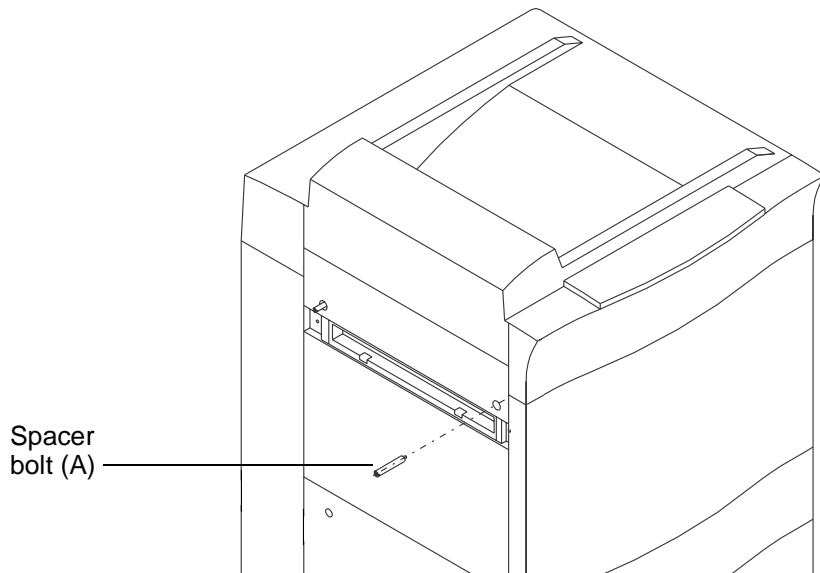

Figure 13 Inserting spacer bolt (A)
Step 5 Insert spacer bolt (A) into the hole where the screw was. See Figure 13.